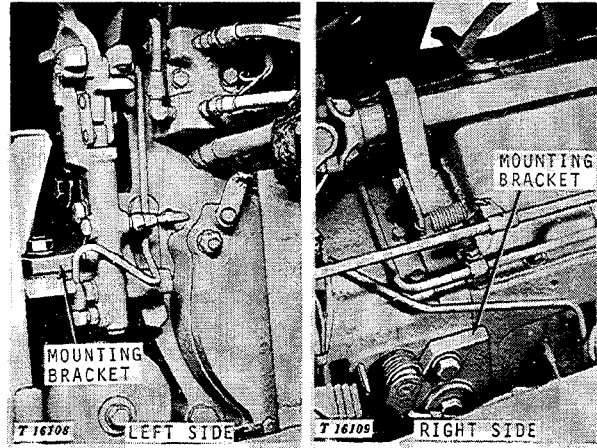

Fig. 7 - Transmission Attaching Points
7. Remove transfer case rear mounting brackets (Fig. 7) and lift transmission-clutch housing assembly so that brake valve can be removed.
Tighten transfer case to rear mounting bracket cap screws to specified torque (Fig. 7).